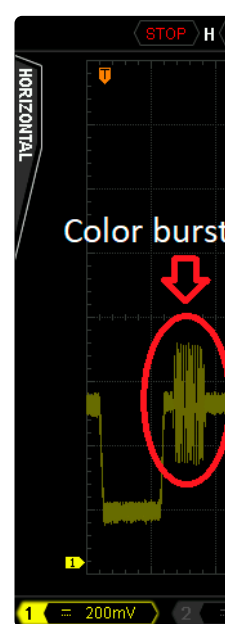
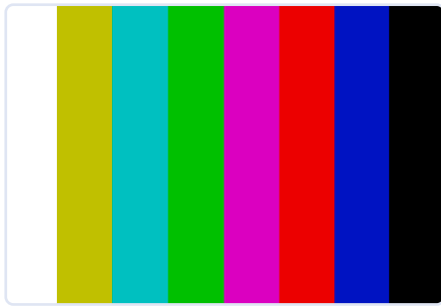

Figure 14: Oscilloscope image of the color burst of a PAL signal.
Figure 15: Test pattern with color bars.
**Figure 1** shows a monochrome PAL signal to which no color information has been added yet. For color information, PAL uses a subcarrier at 4.43361875 MHz, which is used as a reference signal. This reference is sent in each line as a “color burst” (**Figure 14**) during horizontal synchronization. The test pattern (**Figure 15**) is used to explain how the different colors of the test image are coded.